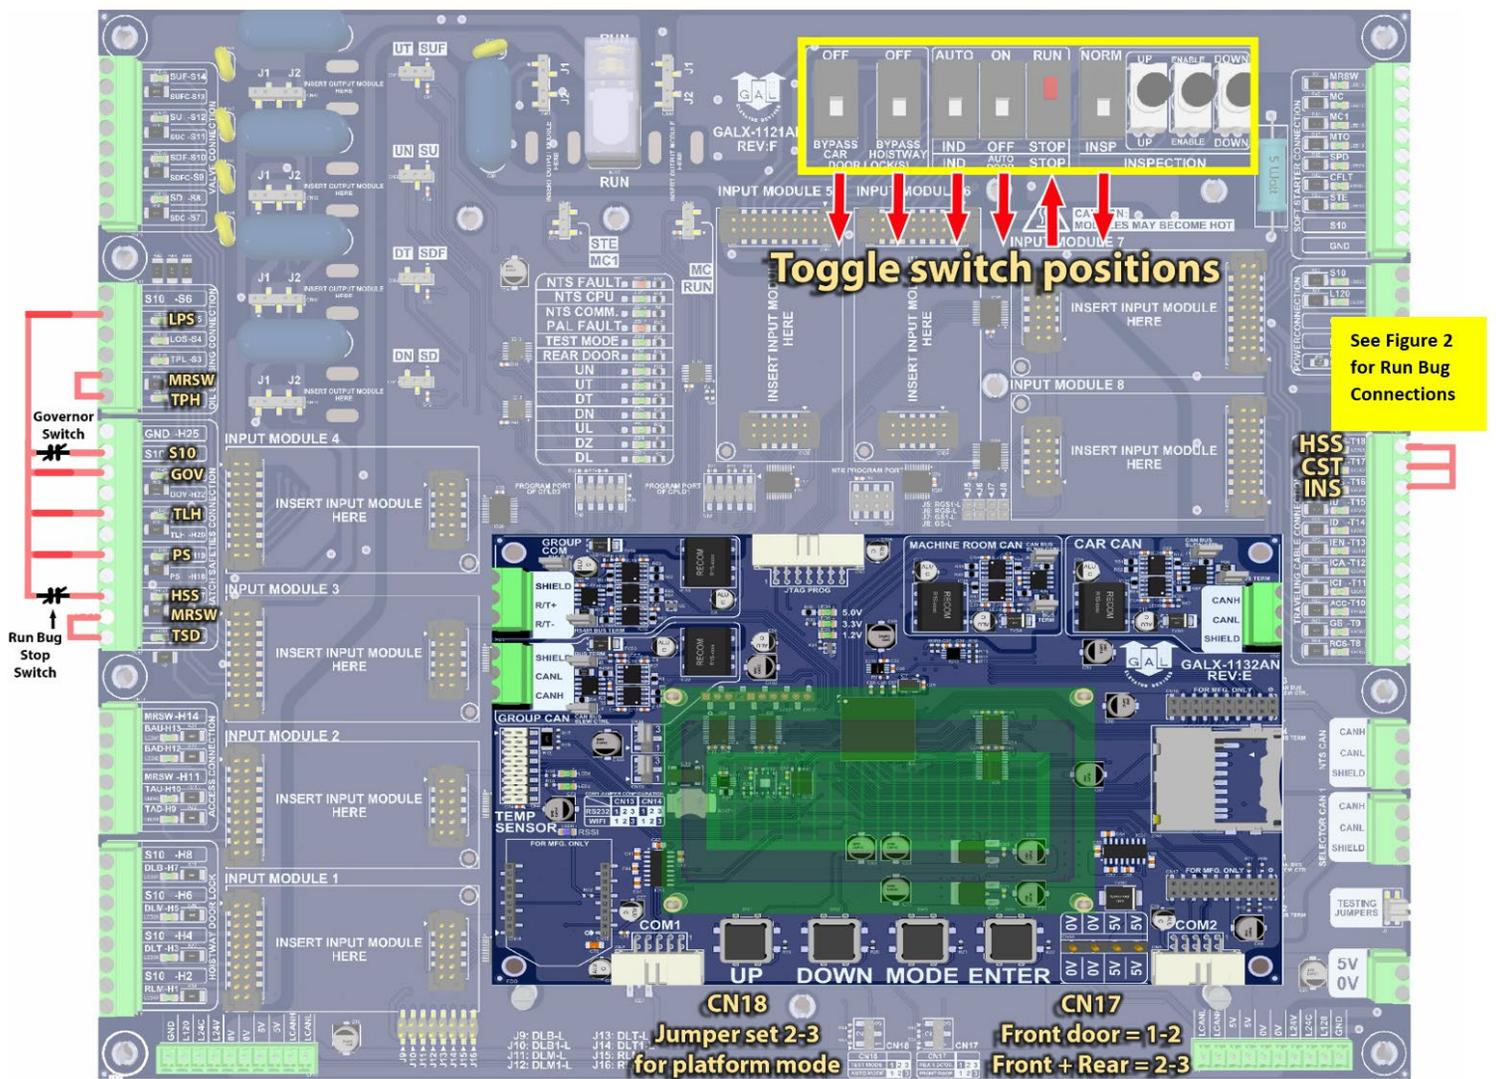

Figure 3: GALX-1121AN Main I/O Board
- 1.4 Set the toggle switches on the Main I/O Board as shown in Figure 3.
- 1.5 Place CN18 on pins 2 and 3, in the temporary "Test Mode" configuration, on the GALX-1121 Main I/O Board, as shown in Figure 3.